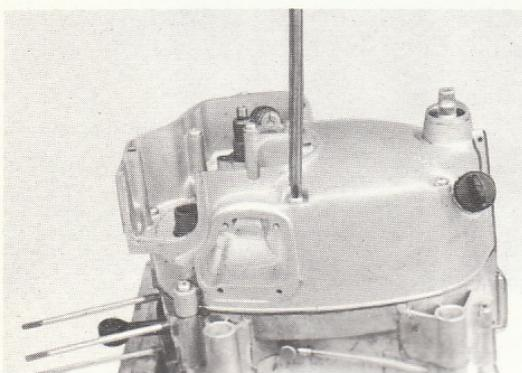

Fig. 3-34
- Remove the pan-head screws holding the right crank case cover (Figs. 3-34 & 3-35). The cover can be removed without removing the oil pump.